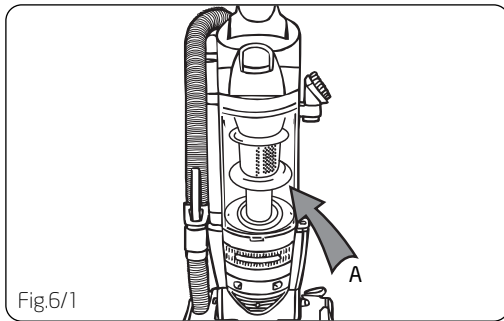

Fig.6/1
Empty the dirt cup before the dirt reaches the fill line (A). Place the cleaner in the upright position before removing the dirt cup (Fig.6/1).